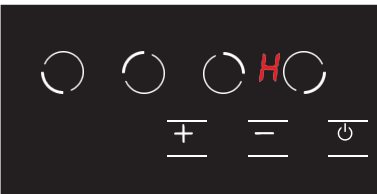

Figure 23
4. Unit switches to stand-by mode after these procedures. However, the **H** icon will be displayed in case of a hot hob even if the unit switches to stand-by mode. (See Fig. 23)